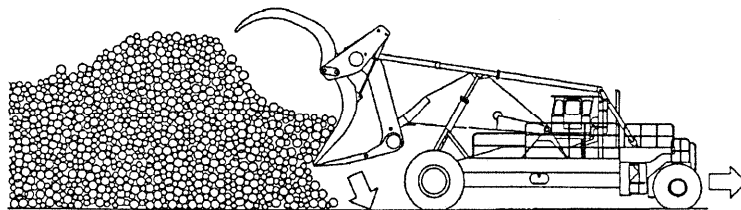

Fig 4-14
4. Continue backing and lowering until all the logs are out of the carriage. See Fig. 4-14.